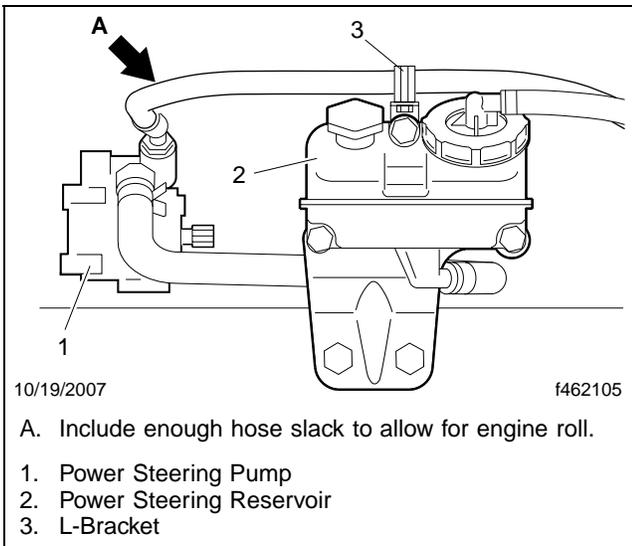

Fig. 5, Hose Routing To Pump (S60 Shown)
32. Install and route the new pressure line from the frame-mounted hose bracket to the pump, and include extra hose between the L-bracket on the top-mount of the reservoir and the pump to allow for engine roll. See **Fig. 5**. Tighten the fitting 42 to 52 lbf-ft (57 to 70 N·m).
35. Using hose clamps, install the new power steering pump suction line on the reservoir and pump. See **Fig. 5**.